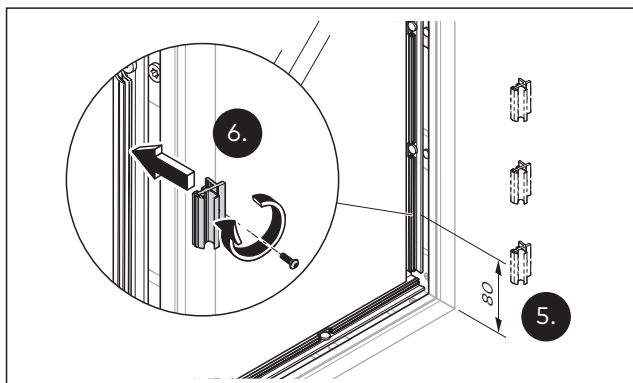

Fig. 35 Example of attaching clamping pieces to the vertical base profile and glass
5. Maintain the distance between the clamping pieces of approx. 80 mm to the corner (Fig. 35).